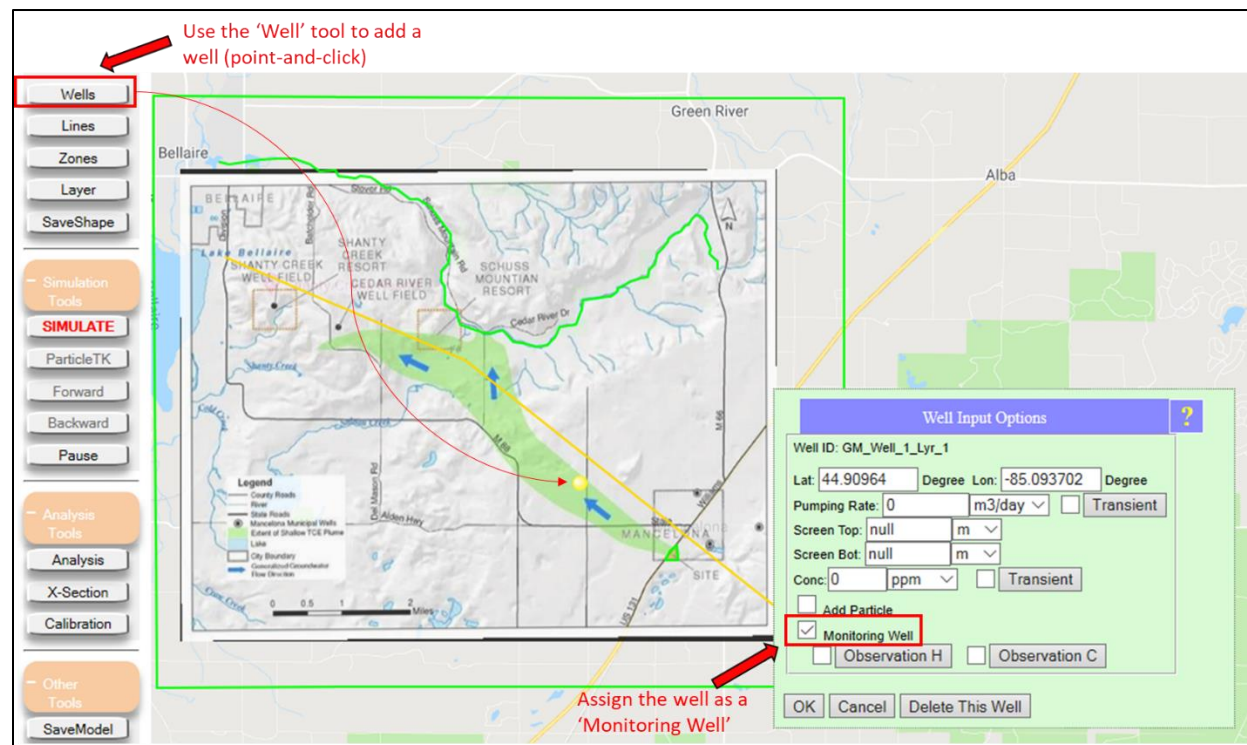

Figure 16. Adding a monitoring well using the 'DrawWells' tool ('Conceptual Model Tools' > 'Wells' > 'DrawWell') and the Well Input Options menu.
- Check the box next to 'Monitoring Well' (see Figure 16).
You may also notice that the simulated plume is not “pulled” to the west as field data/site map suggests in does in reality. This is because the model does not simulate the Cedar River well field near Shanty Creek Resort. Wells can be added to the model using the 'DrawWell' tool ('Conceptual Model Tools' > 'Wells' > 'DrawWell') – see Figure 16.